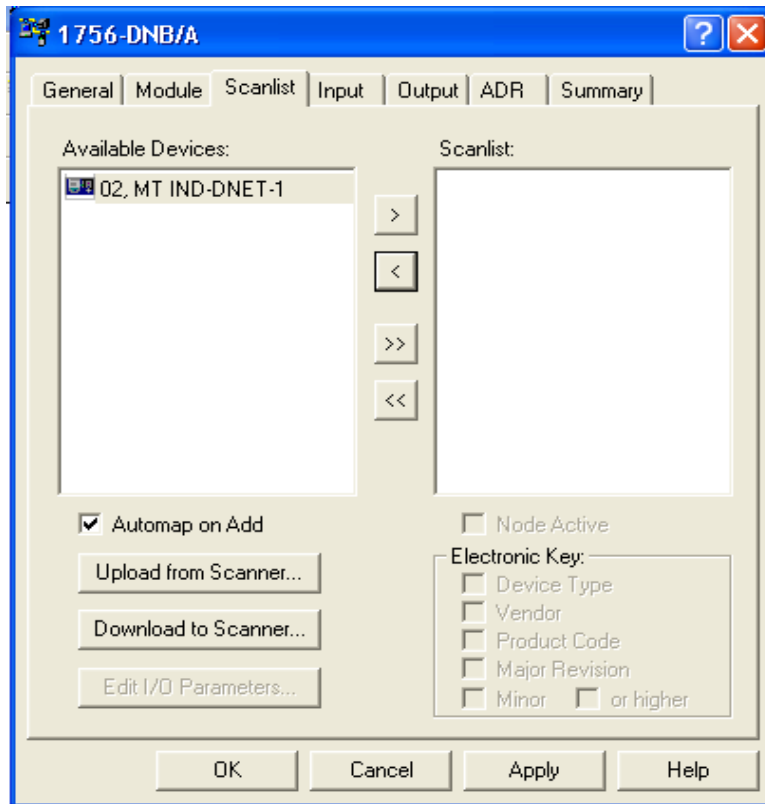

Figure 4-23: Scanner Properties Dialog: Scanlist Tab Showing
7. Click the Scanlist tab in the properties dialog box. The view shown in Figure 4-23 will appear.